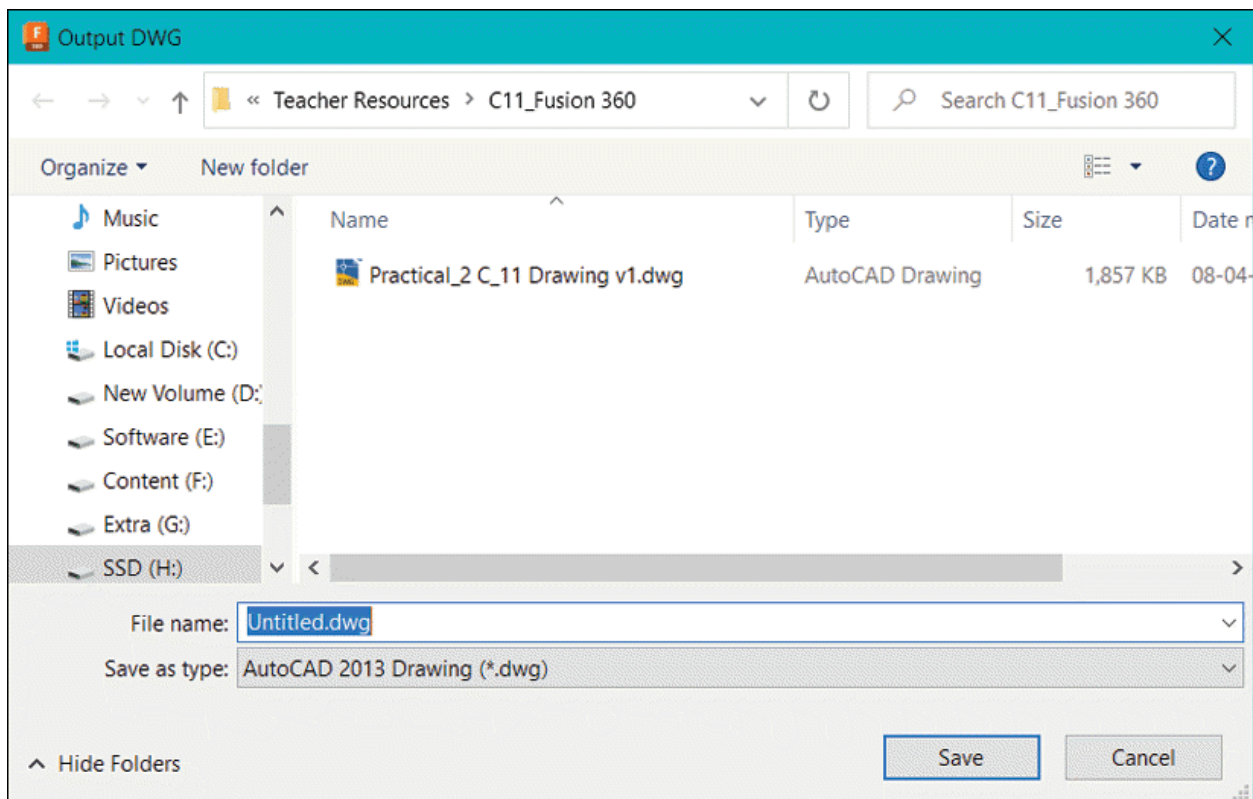

Figure-137. Output DWG dialog box for saving the file
- After specifying the parameters, click on the **OK** button from **EXPORT DWG** dialog box. The **Output DWG** dialog box will be displayed to save the file; refer to Figure-137.